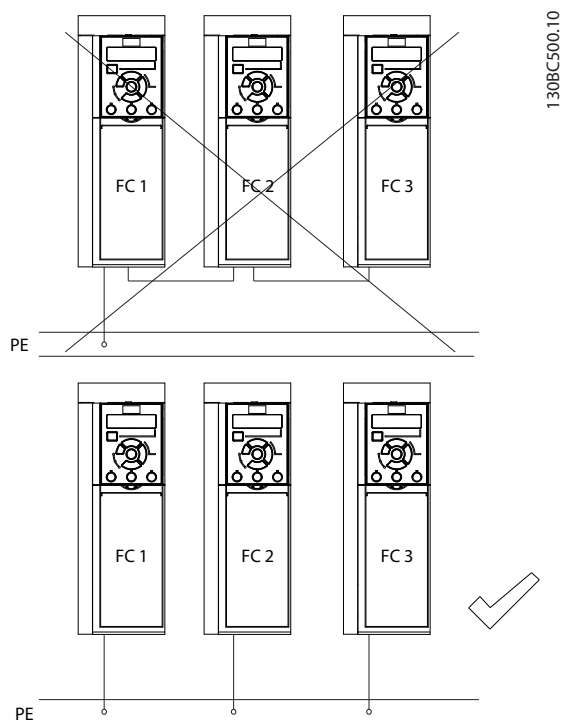

Figure 4.1 Grounding Principle
- Do not ground one adjustable frequency drive to another in a daisy chain fashion (see *Figure 4.1*).